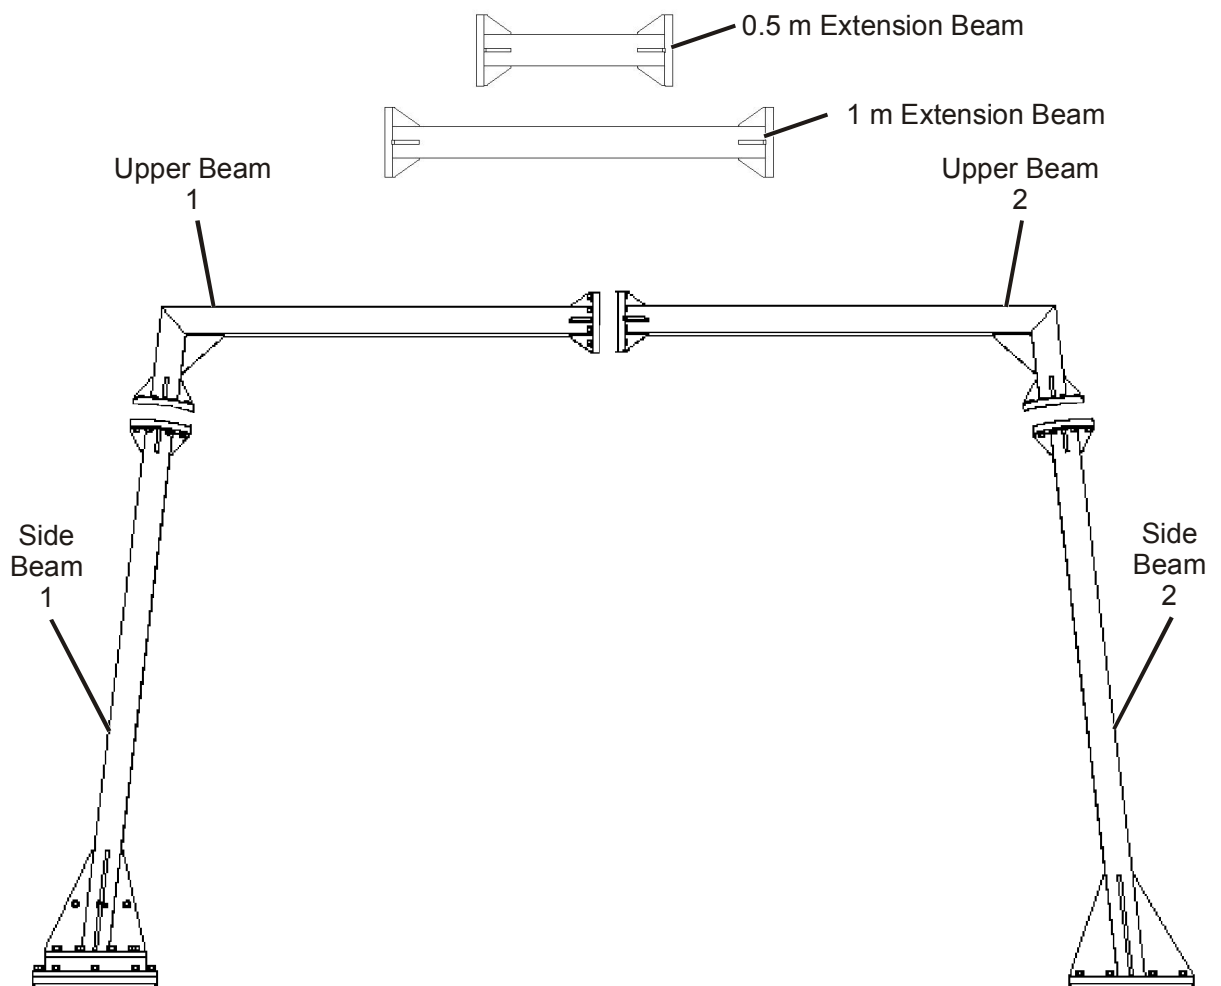
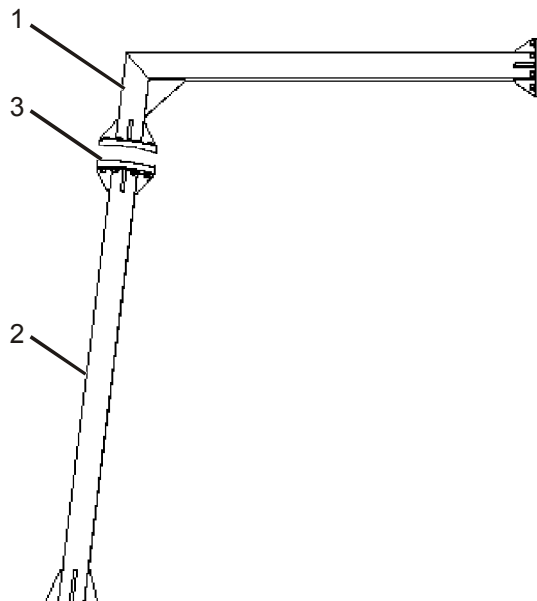

Figure 2-22. Antenna Beam Deployment
Figure 2-24. Side Beam Connection
(See Figure 2-22 to Figure 2-24)
- a. Place the four parts of the antenna on the ground (See Figure 2-22).
- c. Connect the left beam (2) to the upper beam (1) using eight bolts, spring washers, flat washers and nuts (3) (See Figure 2-24).
- d. Connect the right beam to the upper beam using eight bolts, spring washers, flat washers and nuts (See Figure 2-24).